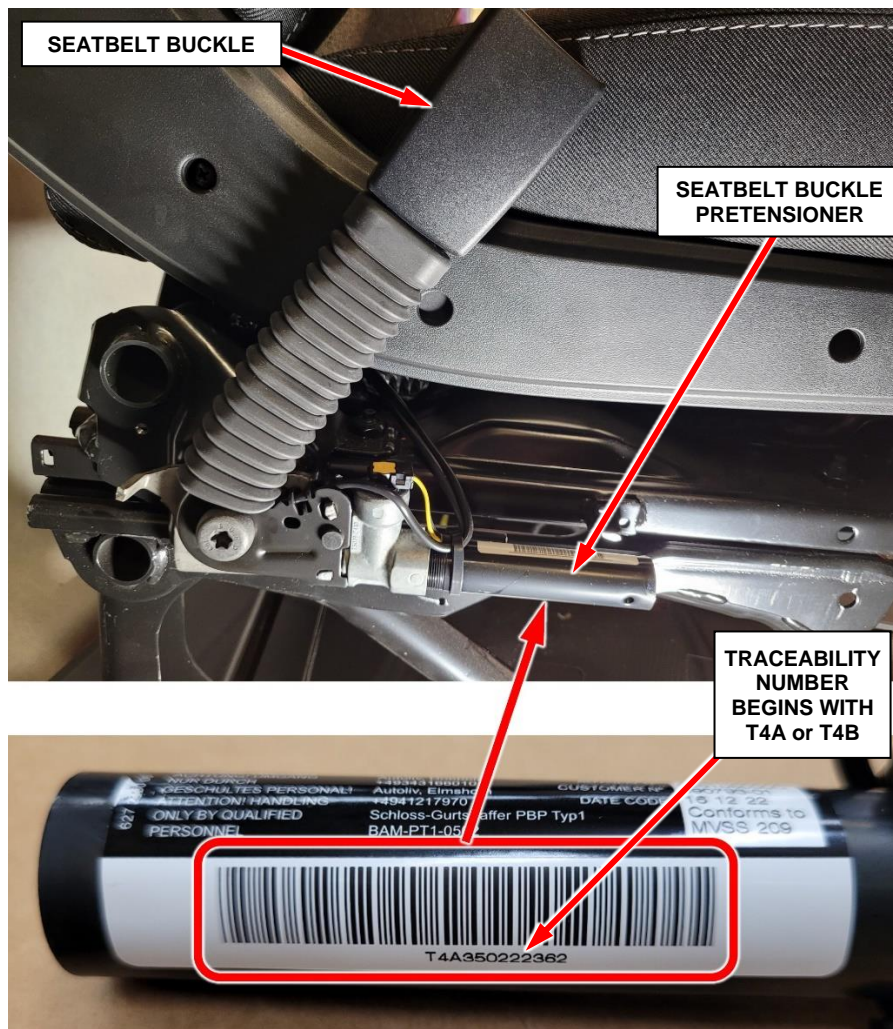

Figure 3 – SABIC Inflator Traceability Number Inspection
6. Locate the traceability number on the **lower portion** of the label on the seatbelt pretensioner. The traceability number begins with T4A or T4B and the build date is the 4th through 7th digit positions as shown in (Figure 3).